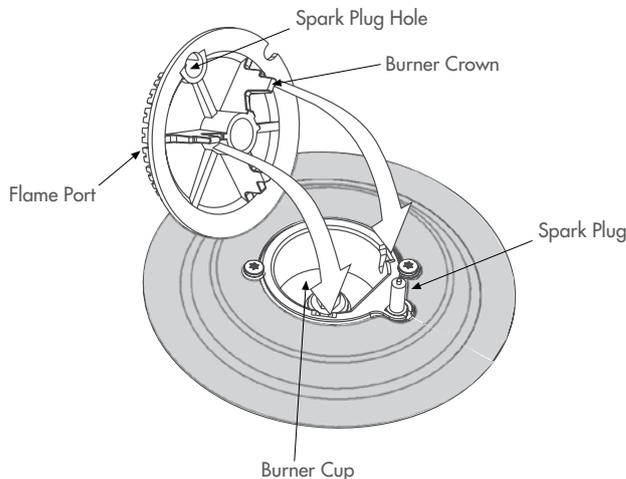

Figure 2
#### REMOVING THE BURNERS (REFER FIGURE 2)
- To do this, ensure that the 2 ribs on either side of the spark plug hole are positioned into the 2 slots on the burner cup. (See figure 2).